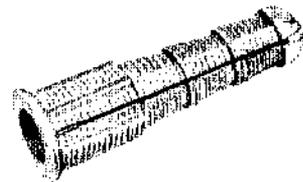

Fig. 25 – AT-7794X Plastic Anchor
6.14 The AT-7794X plastic anchor is intended for use with wood screws when making attachments to masonry (Fig. 25). Table H gives the sizes.